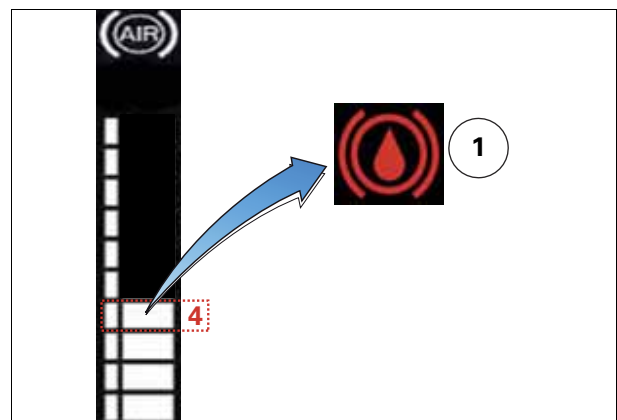

Fig. 6.
When driving, it is advisable to activate the relevant display on the instrument panel screen *fig. 6* to monitor the display of pressure in the system (in bar) (see description on the instrument panel).
When starting, wait for the brake control indicator light (1) to switch off before starting to drive. If the pressure drops below 4 bar, trailer braking is no longer operational; the brake indicator light (1) lights up on the instrument panel *fig. 6*. Stop the tractor carefully and consult your dealer.